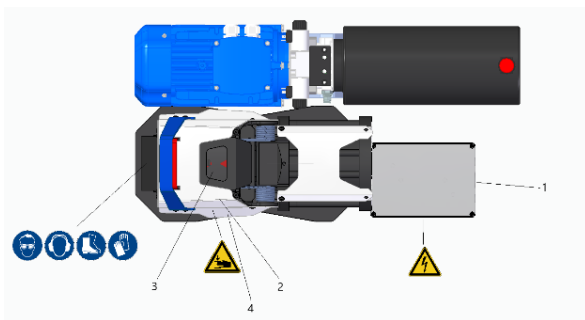
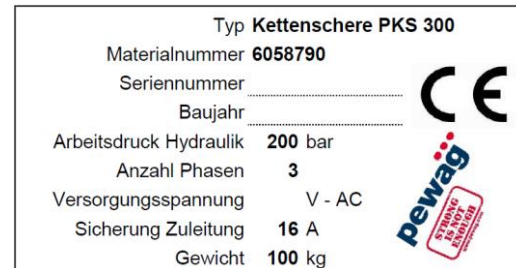

Figure 2 Safety layout
Figure 3 Type plate
The machine is equipped with the following safety devices. The realization takes place in a separate safety control. The safety devices are shown in Figure 2:
Warning signs are mounted on the machine to warn of residual risks that cannot be eliminated by design. The positions of these safety labels are shown in Figure 2.
The type plate (4) (Figure 3) for identifying the system is located on the chain cutter (Figure 2).